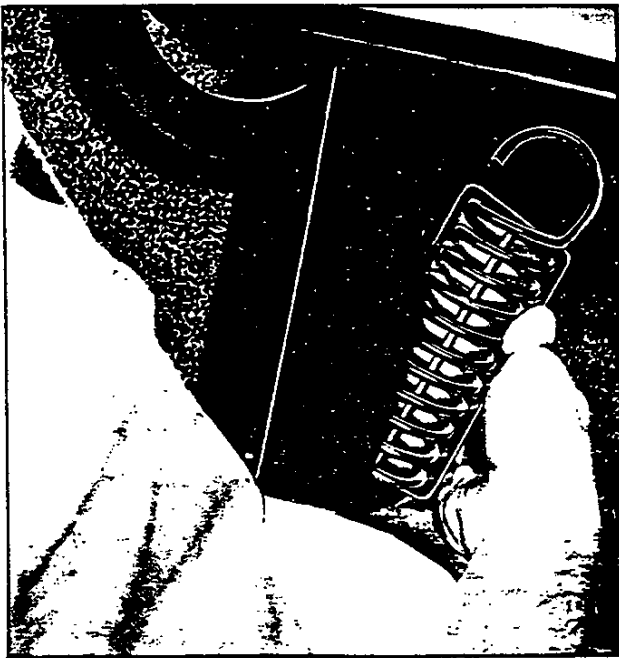

Fig. 42—Removing Hinge Spring
2. Hinge is removed as an assembly by opening top compartment lid fully, and removing three (3) retaining screws. Note number of shims found between hinge frame and compartment floor.
3. Remove spring from hinge assembly by closing top compartment lid as far as possible and inserting Tool J-9550 between expanded coils in spring. Opening top compartment lid fully allows removal of spring as shown in Figure 42.